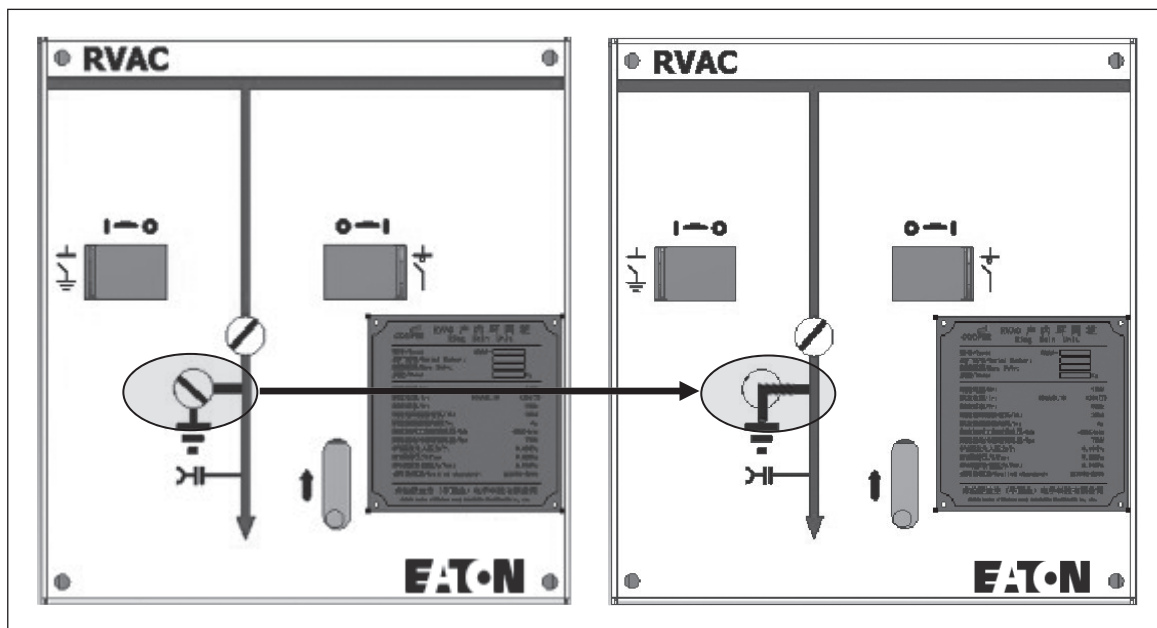

Figure 14.1 Ground switch status indication
- Operate and confirm the ground switch is in the closed state (see **Figure 14.1**);